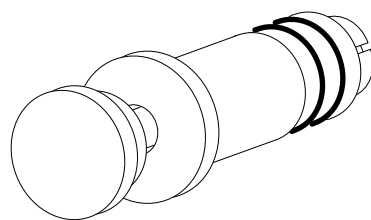

Figure 3-42. Inlet valve seal on the inlet valve seal tool
7. Remove the tool. The inlet valve seal should be on the tool. See Figure 3-42 on page 3-46.